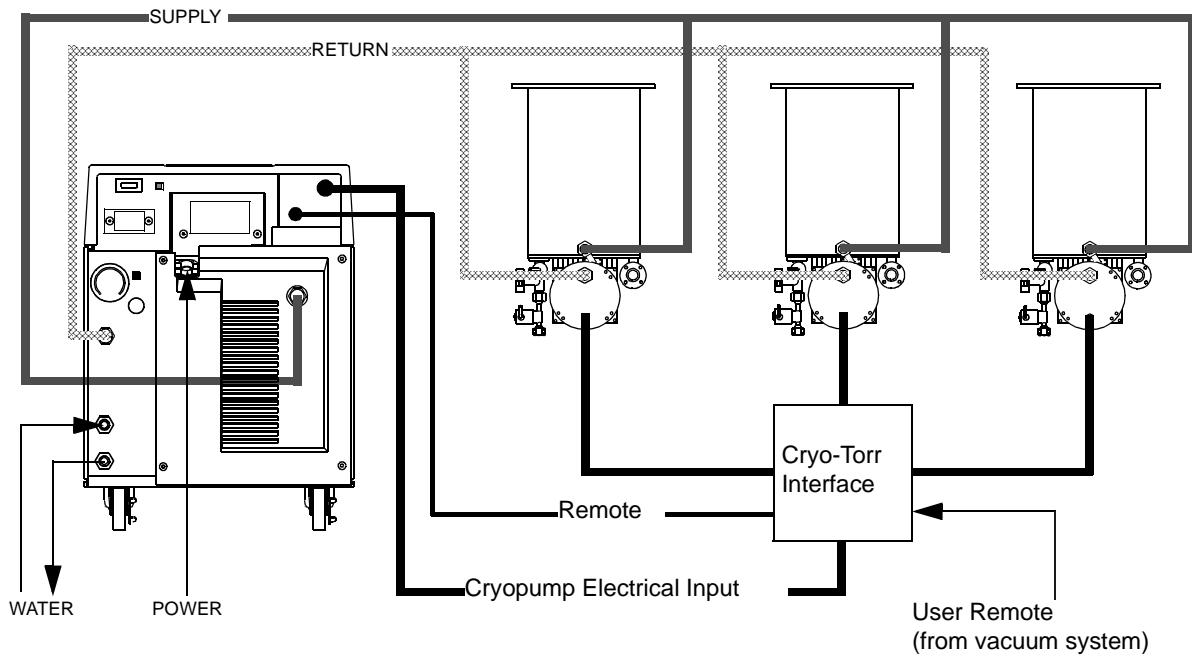
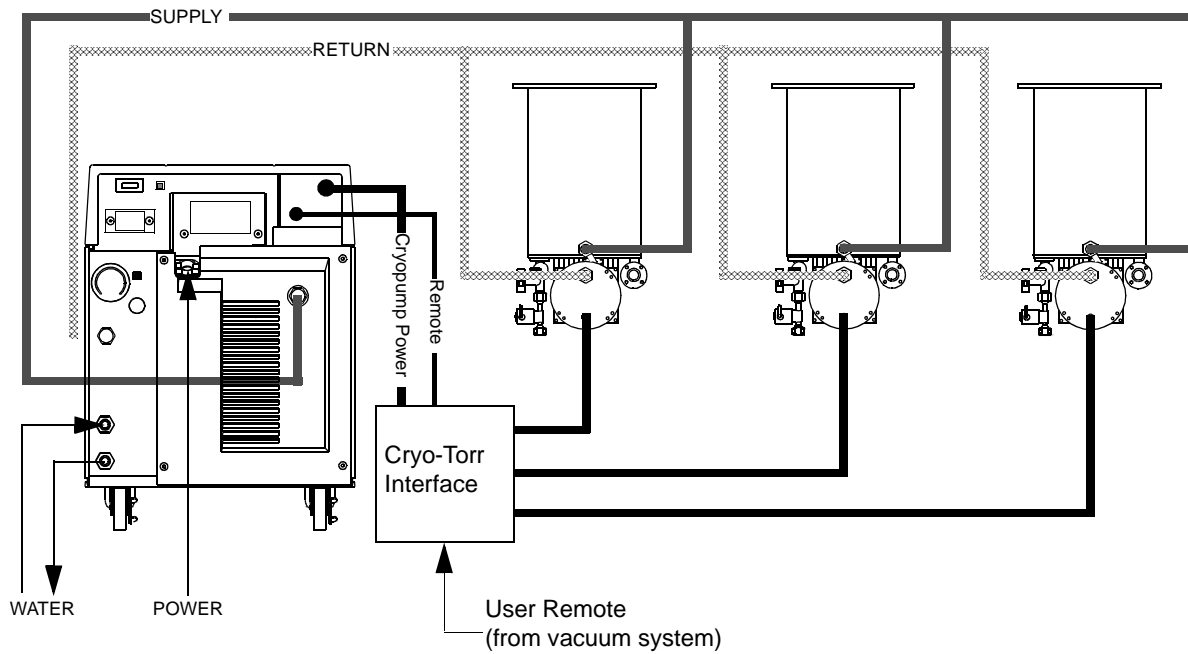

Figure 3-8: Multiple Cryo-Torr Cryopump Installation
Figure 3-9: Multiple Cryo-Torr Cryopump Installation
1. Connect the Cryo-Torr power cable between the CRYOPUMP ELECTRICAL OUTLET on the rear panel of the Compressor and the CRYOPUMP ELECTRICAL INPUT on the Cryo-Torr Interface as shown in Figure 3-8 or Figure 3-9.
2. Connect the Cryo-Torr Power Cables between the CRYOPUMP 1, 2, or 3 connectors on the Cryo-Torr Interface and the respective Cryo-Torr Cryopumps as shown in Figure 3-8 or Figure 3-9.
3. Connect the User Remote cable to the Cryo-Torr Interface as shown in Figure 3-8 or Figure 3-9.
4. Connect the Remote cable between the Cryo-Torr Interface and the Compressor as shown in Figure 3-8 or Figure 3-9.
NOTE: The Cryo-Torr Interface can be installed at the process tool containing the cryopumps as shown in Figure 3-8 or near the Compressor as shown in Figure 3-9. CTI-CRYOGENICS recommends that the Cryo-Torr Interface be installed at the process tool to reduce cable requirements.